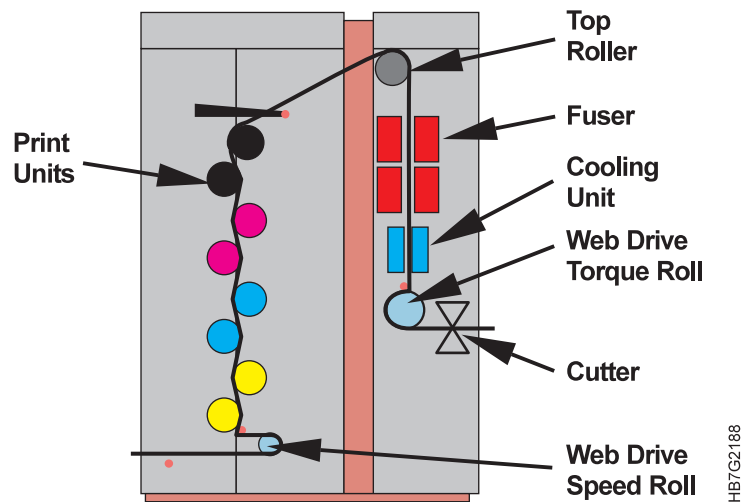

Figure 281. Inserting the Paper Through the Cutter
- 11 Insert the paper through the cutter, as shown in Figure 281.